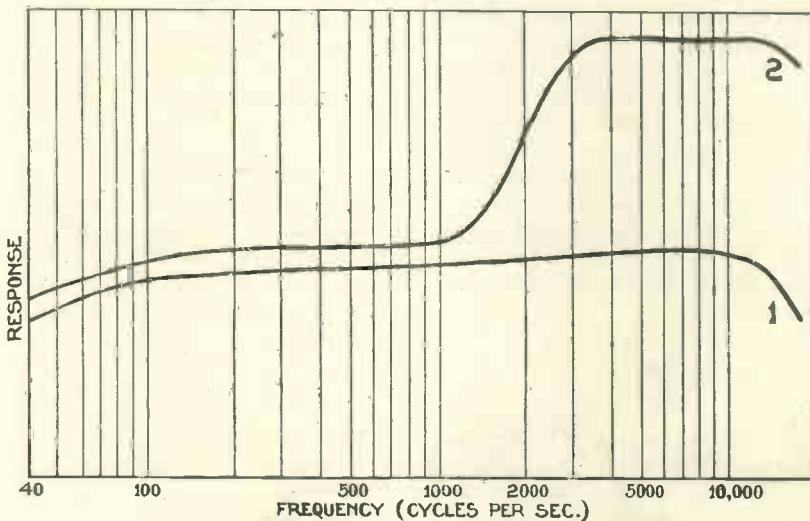

Fig. 4.—Curve 1 shows the static calibration; this becomes as curve 2 through the effects of doubling
Thus the microphone illustrated arrives at double its wanted strength at 2,000 cycles. Of course, the change from single pressure to double pressure takes place slowly over the frequency curve, and the two curves (Fig. 4) show how a microphone with a static calibration (1) becomes (2) in its real curve taken with sound waves.